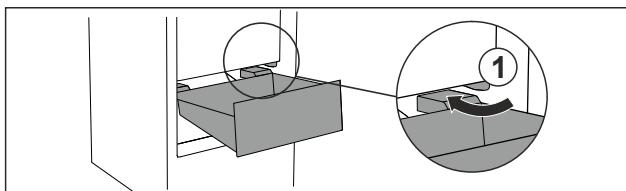

Fig. 77
- ▶ Guide drawer in at an angle around the stoppers Fig. 77 (1).